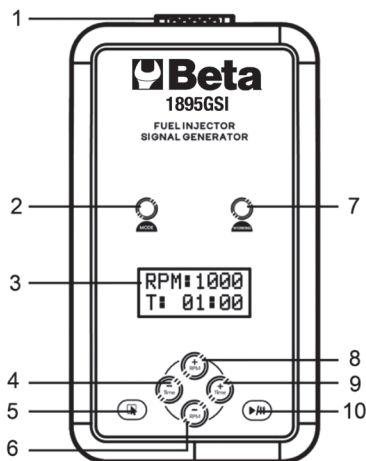

Fig. 1
- Select the required simulated revolving speed by pressing buttons "+" (8 Fig. 1) and "-" (6 Fig. 1).
- Set the duration of the process by pressing buttons "+" (9 Fig. 1) and "-" (4 Fig. 1).